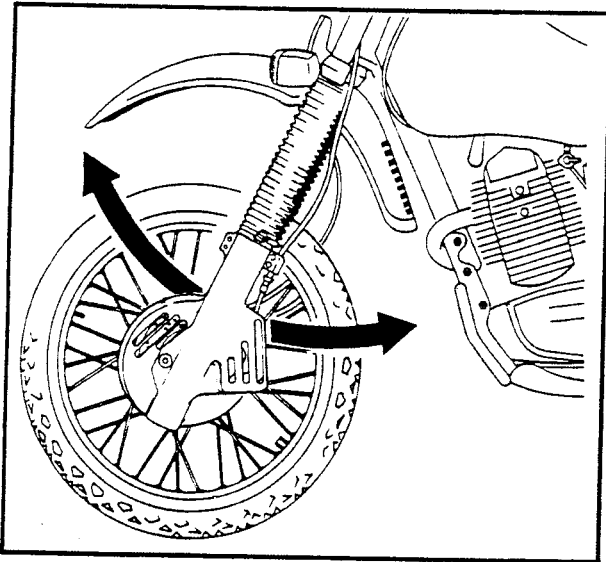

Figure 5-10. Steering Head Radial Play
2. See Figure 5-10. Grasping the lower ends of the fork sliders, pull backwards and forwards to detect any play. If there is any play, the bearings should be adjusted. See STEERING HEAD BEARINGS ADJUSTMENT.